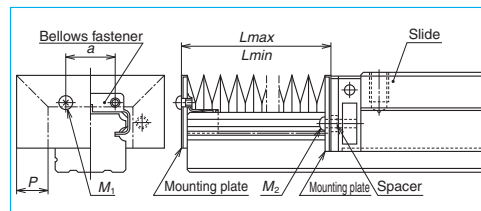

Fig. 7.7
*** Fixing to the ball slide (Fig. 7.7)**
- Remove two machine screws (M_2) which secure the end seals to the end of the slide (**Fig. 7.7**). For LS15, hold the end cap by hand. Otherwise, the end cap is detached from the ball slide, and the balls inside may spill out.
- To install bellows for LH and LS Series, lightly knock a fastener exclusively for bellows to the end of the rail (**Fig. 7.7**). Then secure the mounting plate to the end of the bellows through the tap hole of the fastener.